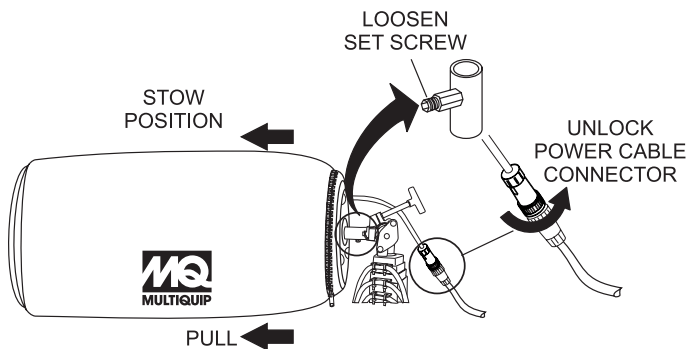

Figure 23. Removing the Balloon/Lamp
2. With a 5 mm allen wrench, loosen the set screw (Figure 23) that secures the lamp to the mast adapter stand.
3. Disconnect the lamp power cable as shown in Figure 23, and slide the balloon/lamp forward from the mast adapter stand. Place lamp/balloon assembly on a suitable work bench that is free of dirt, and sharp objects that could damage the balloon.
3. Place the lamp/balloon assembly back onto the mast adapter stand (Figure 23).